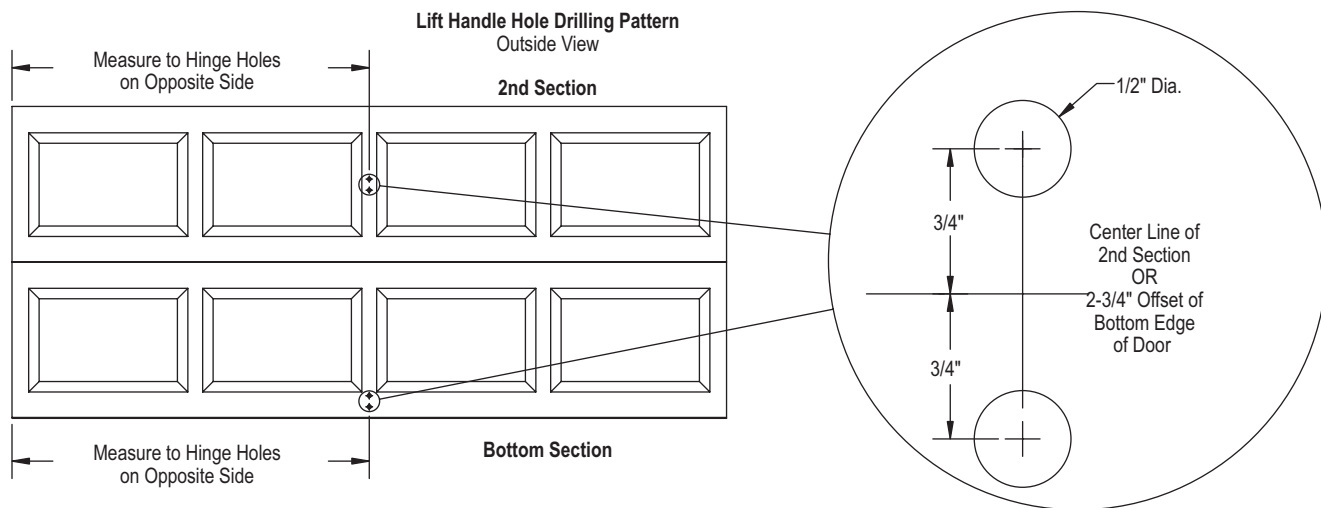

Fig. 8-B
From the front of the door section, drill (2) 1/2" holes through the section according to the Bottom Section Hole Pattern. (Fig. 8-B) A T-square should be used to ensure that they are vertically in line. If your door has an outside keyed lock, the hole pattern should be drilled on the bottom section directly below the lock. If your door does not have an outside keyed lock, the hole pattern should be drilled directly below the hinge closest to the horizontal center of the door. Install the lift handle and inside step plate assembly using (2) #14 x 5/8" sheet metal screws. (Fig. 8-A)
From the front of the door section, drill (2) 1/2" holes through the section according to the 2nd Section Hole Pattern. (Fig. 8-B). A T-square should be used to ensure that they are vertically in line. The hole pattern should be drilled directly above the hinge closest to the horizontal center of the door. Install the lift handle / inside step plate assembly using (2) #14 x 5/8" sheet metal screws. (Fig. 8-A)